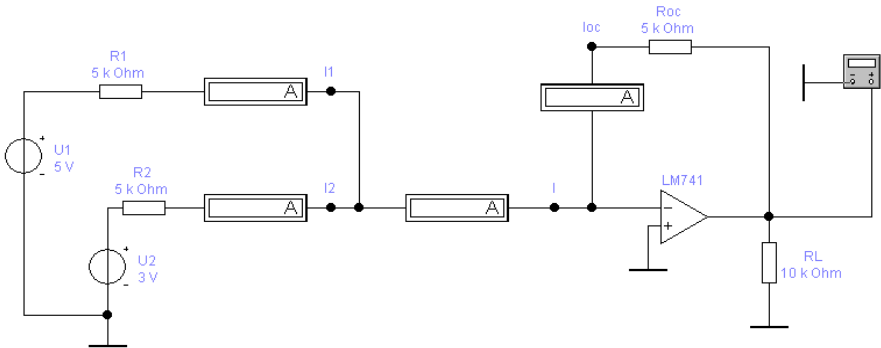

Figure 5.3 - Schematic of adding amplifier
In the summing amplifier fig. 5.3, if the input currents and bias voltages are equal to zero, then the following ratios are performed:
- 1 Draw a diagram of Fig. 5.3.